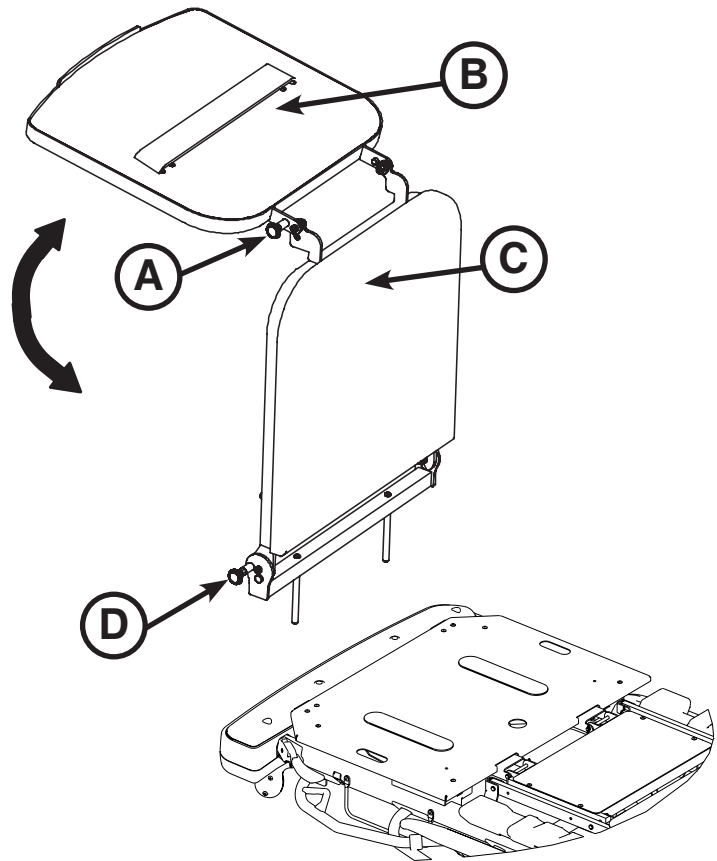

Figure 19.2: Foot Extension/Defibrillator Tray - Foot End
To use as a defibrillator tray, pull out the top knob (A) and pivot the tray (B) over the foot extension (C) until the tray extends flat over the foot end of the stretcher as shown in Figure 19.2.
To use as a foot extension, pull out knob (A) and pivot the defibrillator tray back until it locks against the foot extension (C). While holding onto the assembly, pull out the bottom knob (D) and lower the foot extension down until it is flat as shown in Figure 19.2.